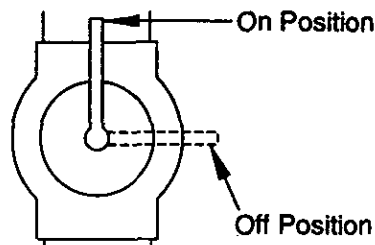

Figure 18 - Manual Shutoff Valve
4. Turn manual shutoff valve clockwise  to OFF position (see Figure 18).
5. Wait five (5) minutes to clear out any gas. Then smell for gas, including near the floor. If you smell gas, STOP! Follow "B" in the safety information on page 20. If you don't smell gas, go to next step.
6. Turn manual shutoff valve counterclockwise  to ON position (see Figure 18).